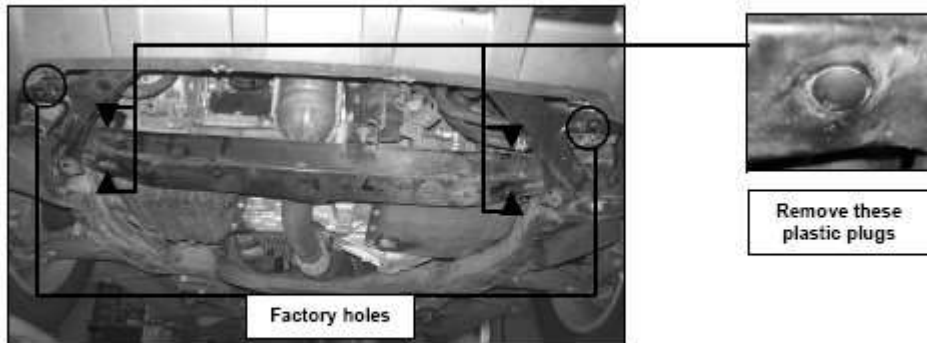

Figure 3
3. Remove the plastic plugs on the cross bar member. There is one on the passenger side and one on the driver side, top and bottom of cross member bar (Figure 3).
4. Position Driver Side Mounting Bracket to vehicle and align holes on the bracket to factory holes. The rear most hole to the Mounting Bracket mounts to the cross bar member using (1) 12-1.75mm x 100mm Hex Head Bolt, (1) 12mm Nylock Nut, and (2) 12mm Flat Washers. The front hole on the Mounting Bracket mounts to the factory bumper support by using (1) 8-1.25mm x 25mm Hex Head Bolt, (1) 8mm Nylock Nut, and (2) 8mm Flat Washers, use this